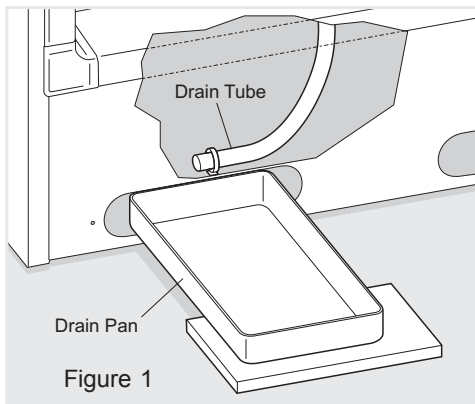

Figure 1
- **On upright models** with a defrost drain (Figure 1), remove drain plug on the inside floor of the freezer by pulling straight out. To access external drain tube on models with a base panel, first remove the two screws from the base panel. Locate the drain tube near the left center under the freezer. Place a shallow pan under the drain tube. Defrost water will drain out. Check pan occasionally so water does not overflow. A $\frac{1}{2}$ inch garden hose adapter can be used to drain the freezer directly into a floor drain (Figure 3). If your model is not equipped with an adapter, one can be purchased at most hardware stores. Replace the drain plug when defrosting and cleaning are completed. If the drain is left open, warm air may enter freezer.